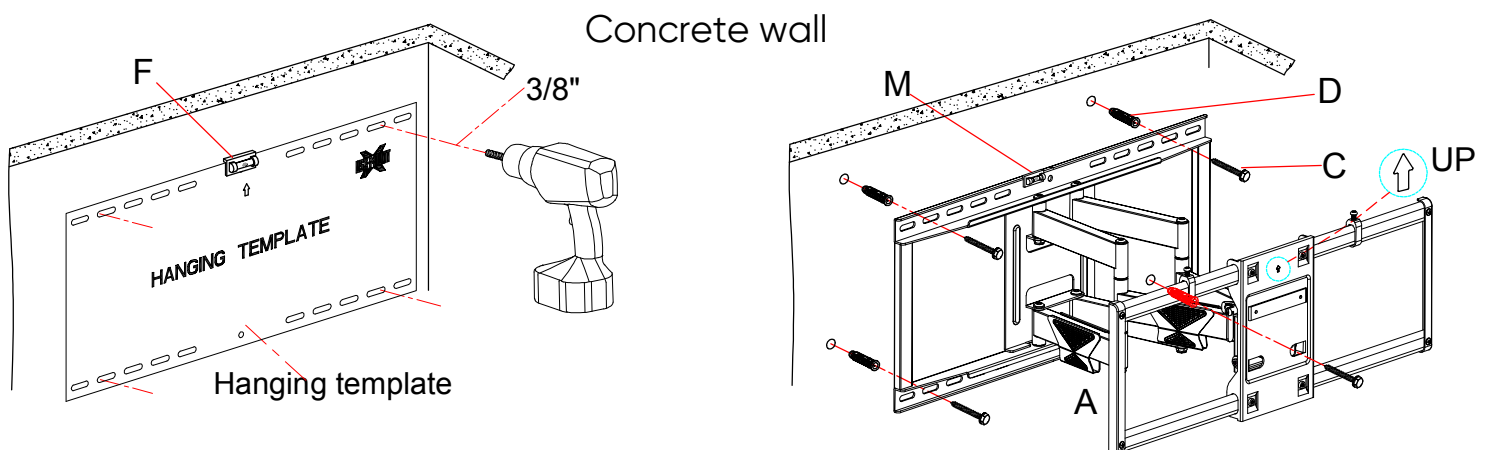

Figure 1 (keep the wall plate level)
**For concrete wall:** Hold hanging template against wall at desired position on concrete wall, then using a pencil mark 4 hole locations. Then drill holes according pencil marks using 3/8" size drill bit to a depth of 2.5". Please remove the hanging template on the surface of concrete wall when assembling mount on the concrete wall. Then you will need to use wall anchors (D). Insert wall anchors (D) into holes, you may need to use hammer to lightly tap wall anchors into wall. Then fix wall plate unit (A) to the wall with lag bolts (C). (Figure 1)